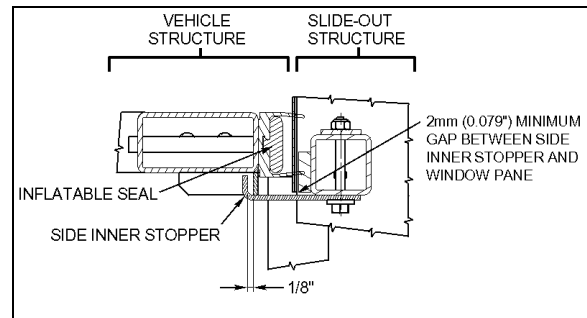

FIGURE 3 : SIDE INNER STOPPER ADJUSTMENT
1. Adjust the side inner stoppers at 1/8" from the vehicle side structure keys, and tighten the screws. Make sure there is a minimum gap of 2mm (0.079") between the side inner stopper and the side window pane (figure 3). Use shim as required.